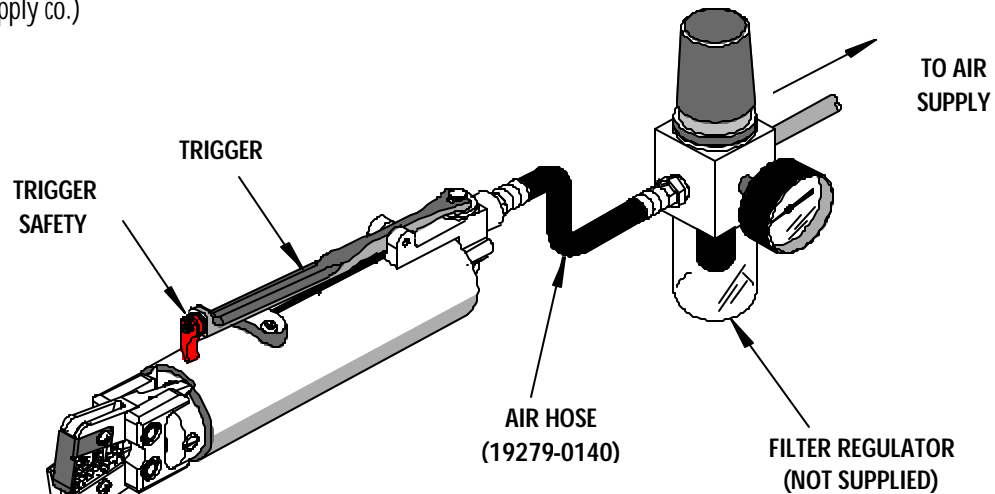

Figure 1
2. Connect air hose to tool and to air supply 85 to 95 PSI. Do not exceed 100 PSI. **May cause injury or damage to the tool.** Air supply must be equipped with a 1/4NPT air filter /regulator which is not supplied by Molex (See Figure 1). (Available from any Industrial supply co.)